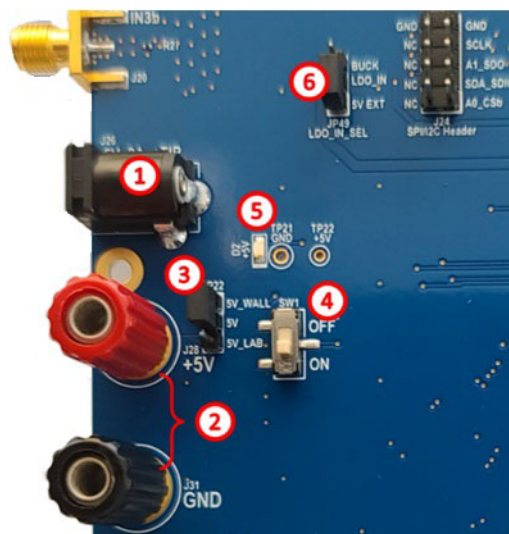

Figure 8. +5 V DC Power Supply
A +5 V supply is required for the board to operate. The +5 V supply plane options and features are detailed below. Circled numbers indicate locations on the dc power supply shown in Figure 8.
The DUT power supply pins can be supplied by a 3.3 V, 2.5 V, or 1.8 V LDO, or a global 1.8 V plane. The applicable VDD pins are VDDO[1:4], VDDIN, VDDA, VDDIO, VDDREF, and VDD_OCXO. The LDO supply can be set from the 5 V supply or the 3.6 V buck switching regulator (Figure 8 [⑥]):